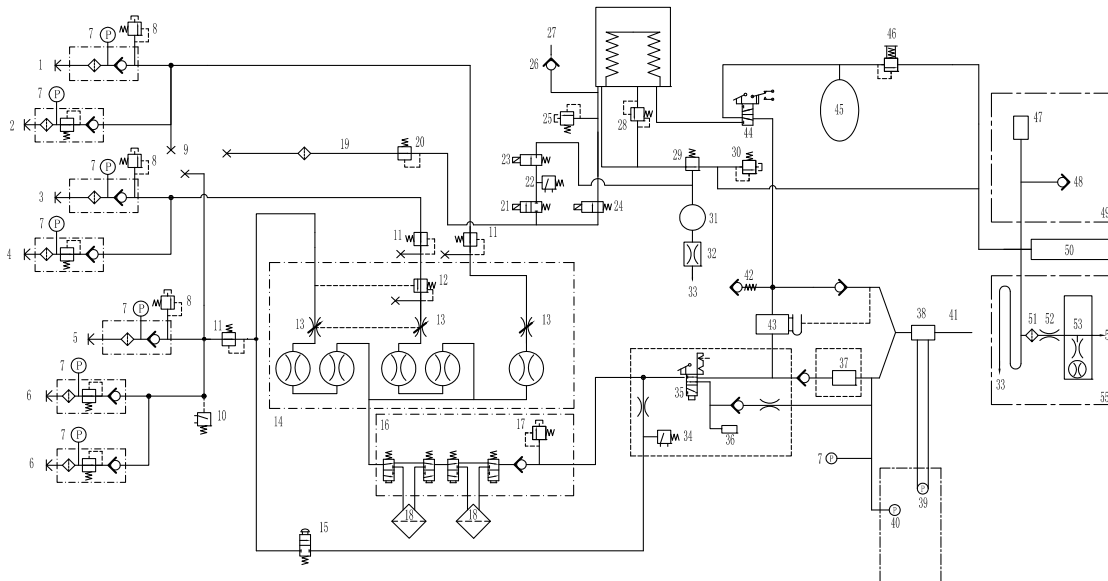

Figure 2-1 • Pneumatic diagram
2.2.1 Overview Refer to Figure 2-1.